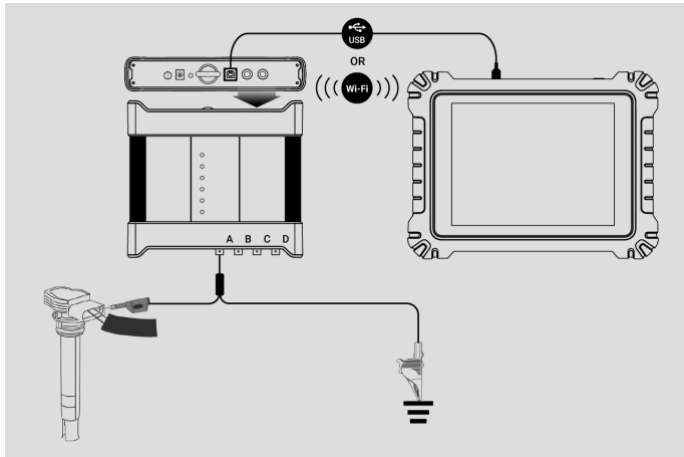

Figure 7-1 Connection Diagram
1. Insert the applicable test lead or probe terminal ends into the input channel(s) to complete the connection. (See Figure 7-1 Connection Diagram.)